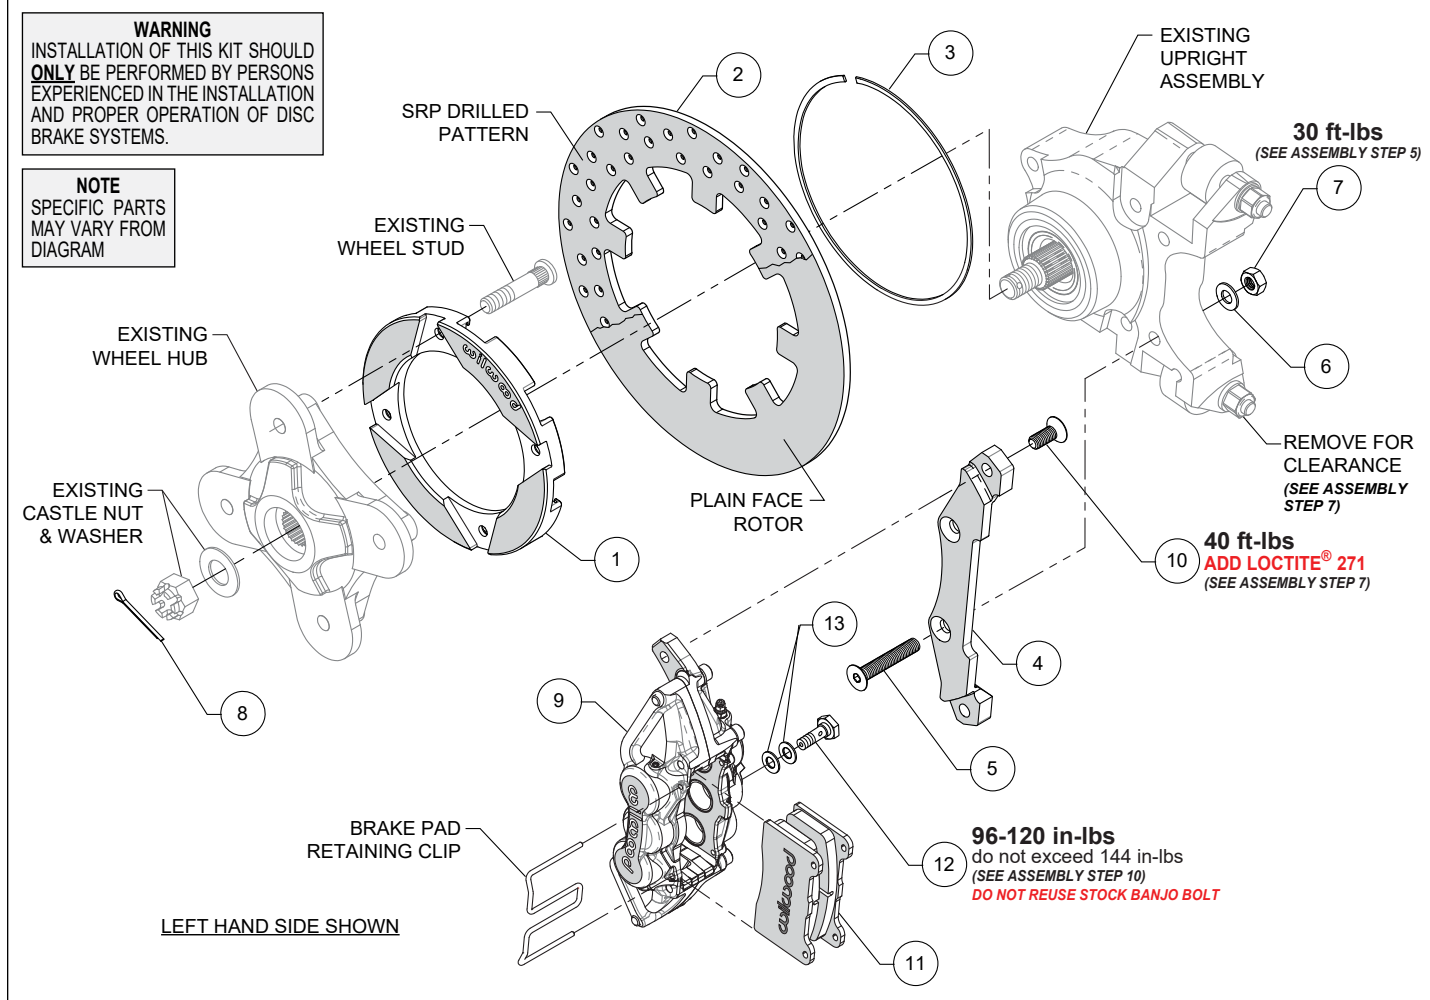

Figure 1. Typical Installation Configuration
NOTE: Numbers in parenthesis refer to the parts list and Figure 1 on the preceding pages.
STEP 2 Place the existing OEM wheel hub face down and position the rotor adapter (1) onto the wheel hub as shown in Photo 1. **NOTE:** The existing wheel hub must be free of dirt and debris or excessive rotor run out may result. Press the OEM wheel studs back in through the rotor adapter and OEM wheel hub.
STEP 3 Position the rotor (2) onto the rotor adapter (1), making sure the rotor lugs fit into the recesses of the rotor adapter, as shown in Photo 2.
STEP 4 Secure rotor to the rotor adapter using the snap ring (3) by installing the snap ring into the groove of the rotor adapter, as shown in Photos 3 and 4. Carefully inspect snap ring to ensure complete engagement in the groove.
STEP 5 Orient the caliper mounting bracket (4), as shown in Figure 1 and Photos 5 and 6. Install using bolts (5), washers (6), and nuts (7). Torque lock nut to value shown in Figure 1.
STEP 6 Grease the splines and outer snout of the existing wheel hub with high temperature grease and slide the wheel hub/rotor assembly onto the axle, Photo 7. Attach using the existing OEM washer and castle nut. Tighten to OEM specifications and secure using cotter pin (8), Photo 8.
STEP 7 Secure the caliper (9) to mounting bracket (4) using bolts (10), Figure 1. **NOTE:** To properly access and torque the lower caliper mounting bolt, the nut and bolt that secures the lower suspension arm to the upright must be removed, allowing the suspension arm to be lowered out of the way, Photo 9. Apply red Loctite® 271 to the bolt threads (10), and torque to value shown in Figure 1.
STEP 8 Remove the pad retainer clip from the caliper (9). Insert the brake pads (11) into the caliper with the friction material facing the rotor, as shown in Photo 10. Reinstall the pad retainer clip, Photo 11.
STEP 10 Attach brake line to caliper. Orient brake line as shown in Photo 11 and connect to caliper using banjo bolt (12) and crush washers (13). Do not use lubricant or thread sealant on banjo bolt (12). Torque to minimum value shown in Figure 1. Check for leakage, increasing torque only to stop leakage without exceeding maximum specification. Replace crush washers and banjo bolt whenever reassembly is required. **Ensure hoses are routed to prevent contact with moving suspension, brake or wheel components.**